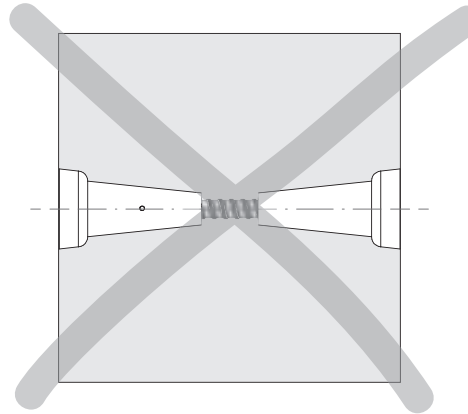

Fig. B1.01
- Each CB bracket must be individually anchored, and the loosening or dismantling of the anchoring may only take place on the side of the load transfer. The positioning of two cones against each other is not allowed. (Fig. B1.01)